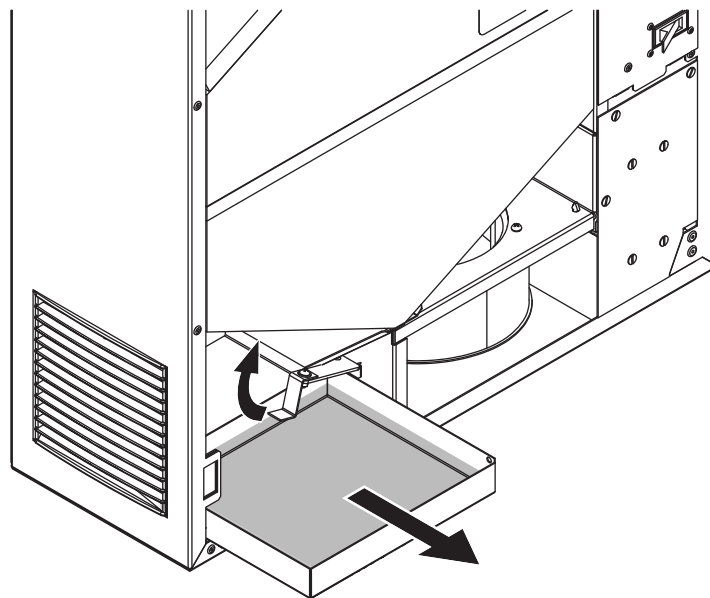

Fig. 17. Drain pan removing
4. Keep the condensate level switch, pull and remove the condensate drain pan carefully (Fig. 17).